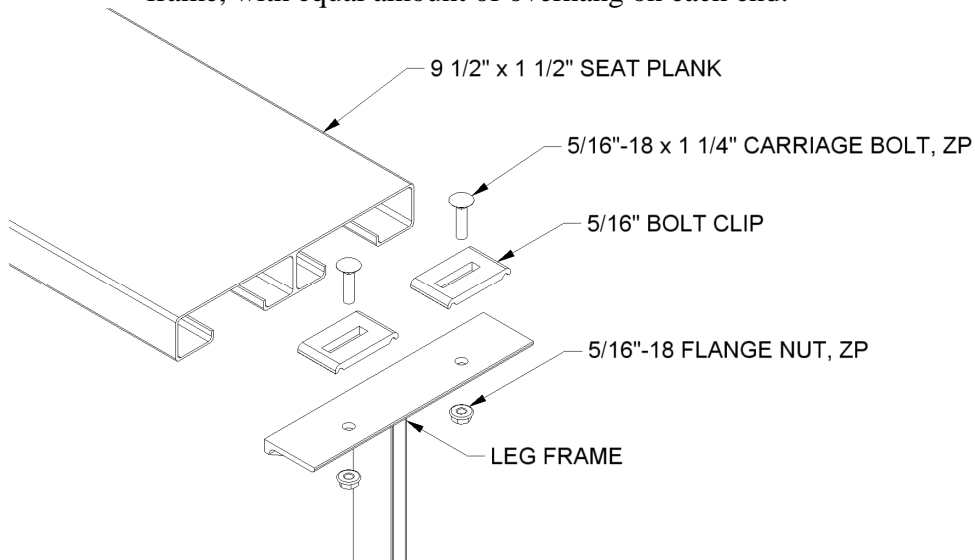

FIGURE: 4
3. Making sure the undercarriage frame is square and plumb, install the seat and foot planks. The seat and foot planks are best installed starting from the front seat and working towards the back. Use the hardware and bolt clip as shown in figure 4 & 5. Position planks so they are centered on the frame, with equal amount of overhang on each end.